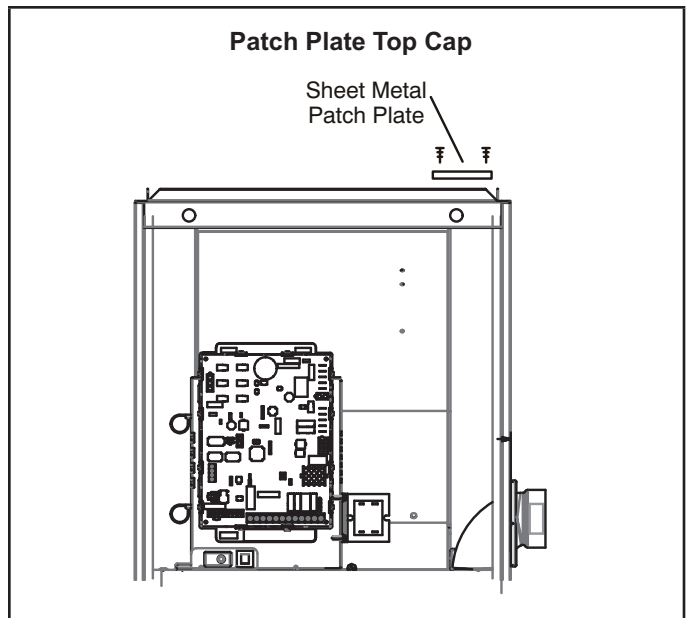

FIGURE 19
- 8 - Re-use the patch plate to cover the hole in the top cap. See FIGURE 19. Remove the 2 screws which secure the top cap to the furnace on the right side and re-install securing the right edge of the patch plate and the right side of the top cap to the furnace. Use 2 self-drilling sheet metal screws (provided) to finish securing the left edge of the patch plate on the left side.